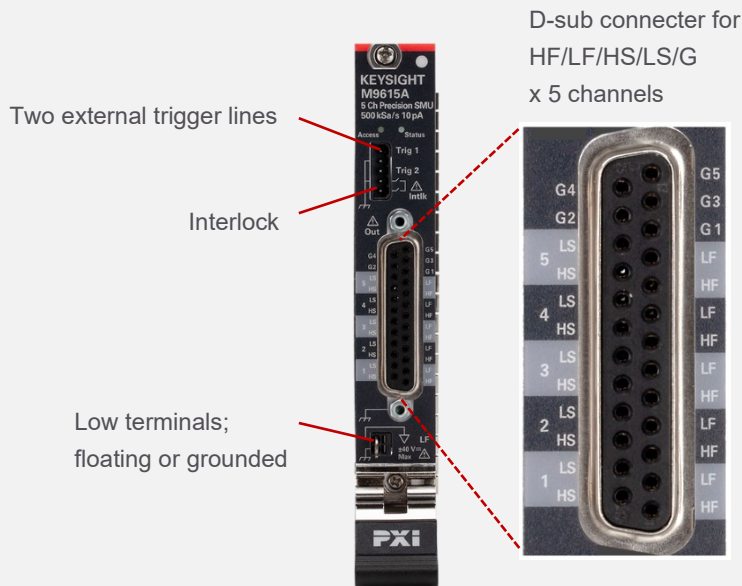

Figure 1. Front panel
As shown in Figure 1, the M9614A/M9615A has D-sub 25 pin connector. It provides High force (HF), Low force (LF), High sense (HS), Low sense (LS) and Guard (G) terminals for 5 channels. Each channel supports both two-wire and four-wire measurement, and low current measurement with a guard.